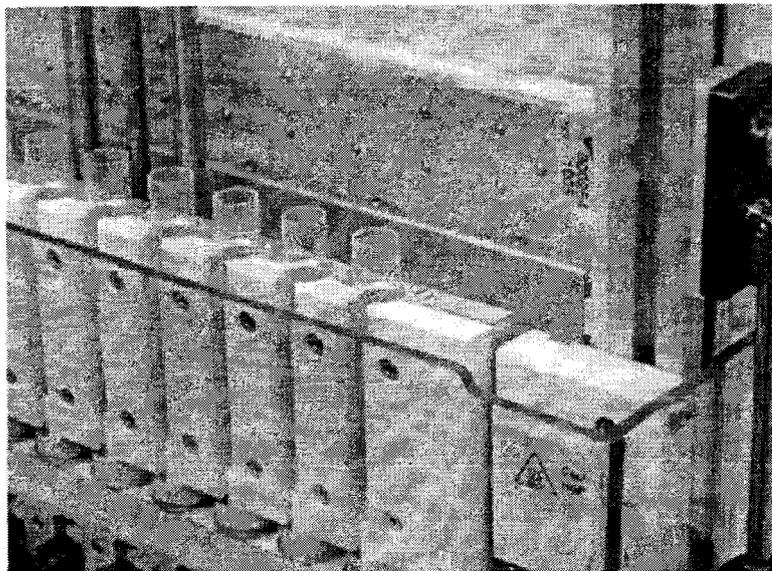

Figure 10. Proper installation of the Quest RVs
4. Check that the vessels are fully seated over the male Teflon RV fittings of the Lower Drain Manifold. If the vessels are seated properly, the tops of the vessels will be horizontally uniform and the frits will be seated just above or on the male Teflon RV fittings of the Lower Drain Manifold (**Figure 10**).